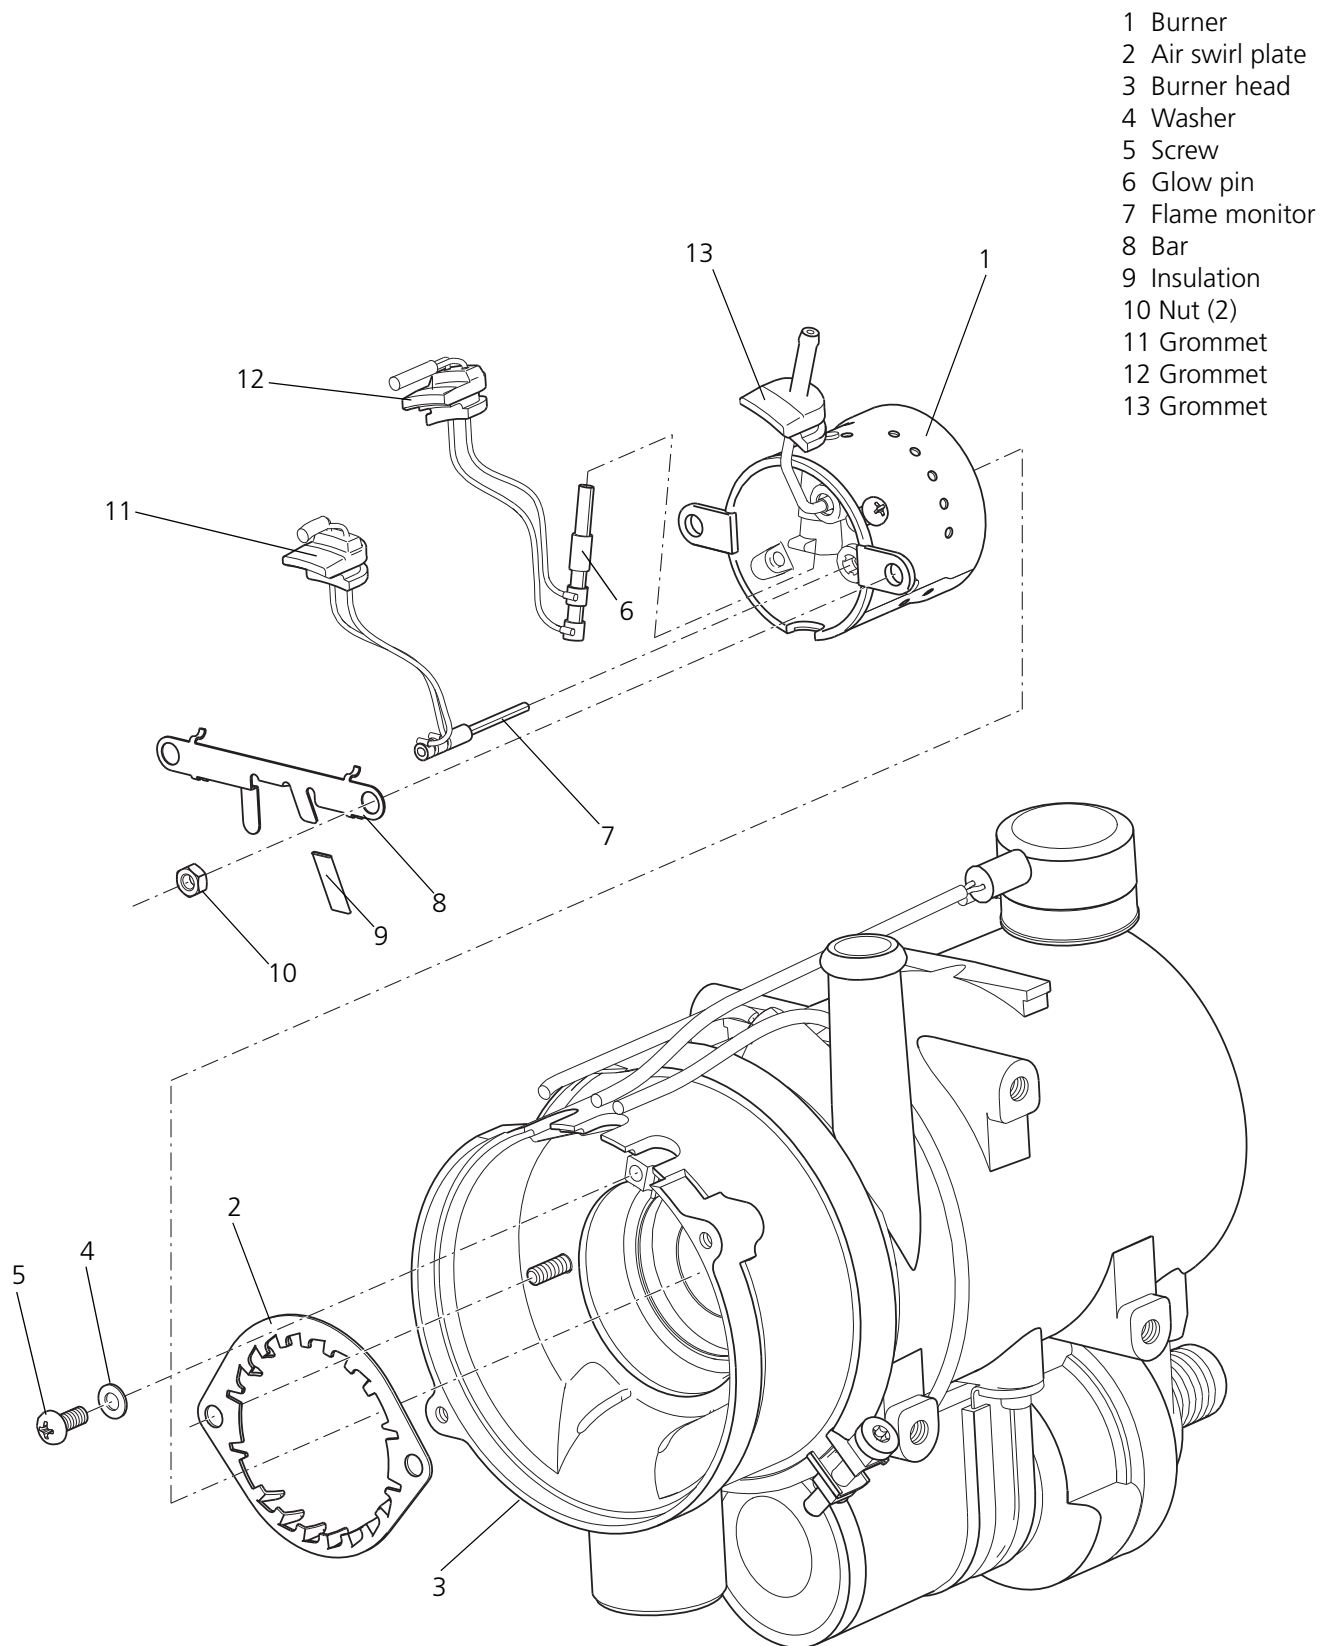

Figure 28: Replacing the burner, flame monitor and glow pin
3. Remove the screw (5, Fig. 28) and washer (4).
4. Remove the nuts (10) and pull off the bar (8).
5. Pull the grommets (11 and 12) out of the slots in the housing of the combustion pipe (3).
6. Pull the grommet (13) and burner (1) out of the burner head and remove with the air swirl plate (2).
7. Pull the flame monitor (7) and glow pin (6) from the burner (1) and remove.
1. Place the air swirl plate (2, Fig. 28) onto the burner (1).
2. Carefully insert the flame monitor (7) and glow pin (6) into the burner up to the stop and push the grommets (11 and 12) into the slots in the housing of the burner pipe (3).
3. Insert the burner (1) and grommet (13) into the burner head (3).